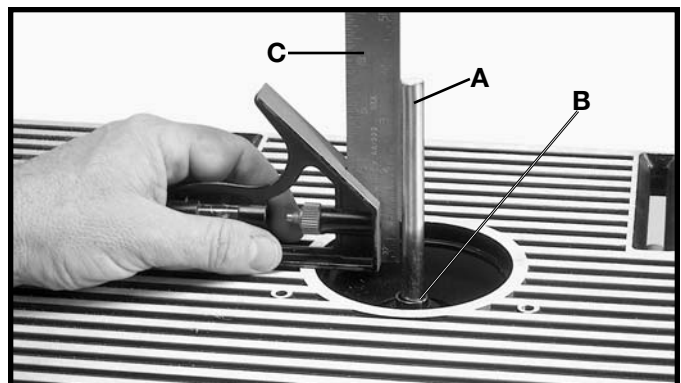

Fig. 23
3. Insert a "straight" section of 1/2-inch diameter metal rod, (A) Fig. 23, which is at least 6 inches in length, into router collet (B) and tighten collet (B) as you would a router bit.
4. Using a square (C) Fig. 23, either on the right or the left side of the table, place one end of the square against the metal rod (A) as shown. Check to see if metal rod (A) is 90 degrees (left and right) to the table surface. If an adjustment is necessary, proceed as follows: